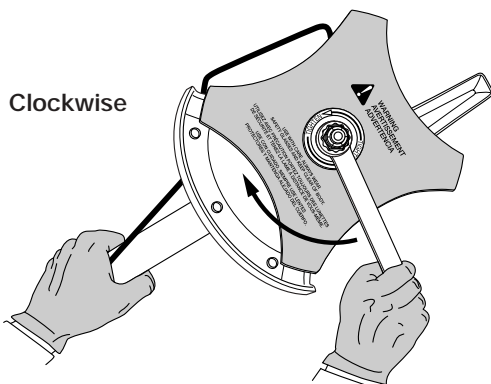

Fig. 15
2. Hold the locking rod in place by grasping it next to the boom of the unit (Fig. 15).
3. While holding the locking rod, loosen the nut on the blade by turning it clockwise with a 5/8 inch closed-end or socket wrench (Fig. 15).